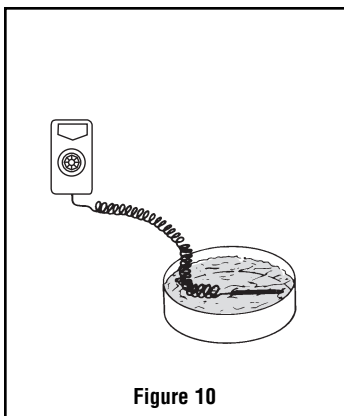

Figure 10
1. If accurate measurement standards are not available, the thermostat can readily be adjusted to a known temperature standard such as boiling water (212°F) (see Figure 10).